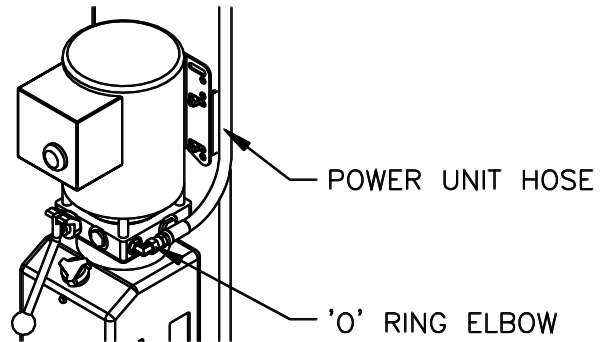

Fig 10b Power Unit Connection
- 24) Thread 9/16-18 O-ring elbow (*in hardware box*) into power unit. Attach free end of power unit hose to elbow. See **Fig 10b**. CAUTION do not damage rubber O-ring.